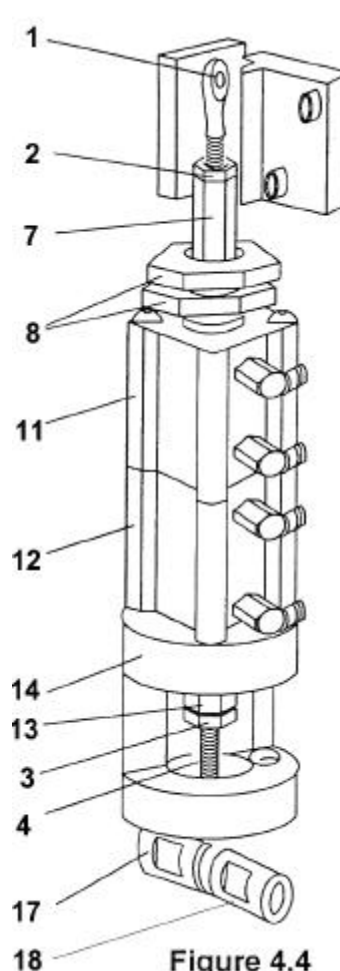

Figure 4.4
Three settings are available on the index feed stitch size adjuster item 1 fig 4.4, small, medium or full. The full stitch size is adjusted using the stitch regulator on the sewing head, but the small and medium stitch sizes are adjusted on the stitch size adjuster. To set the small stitch size set both cylinders 11 and 12 figure 4.4 and use the lock nuts 8 to the set the size. For the medium stitch size activate cylinder 12 and adjust rod end bearing 4 using adjuster screw 13. lock off screw with nut 3.